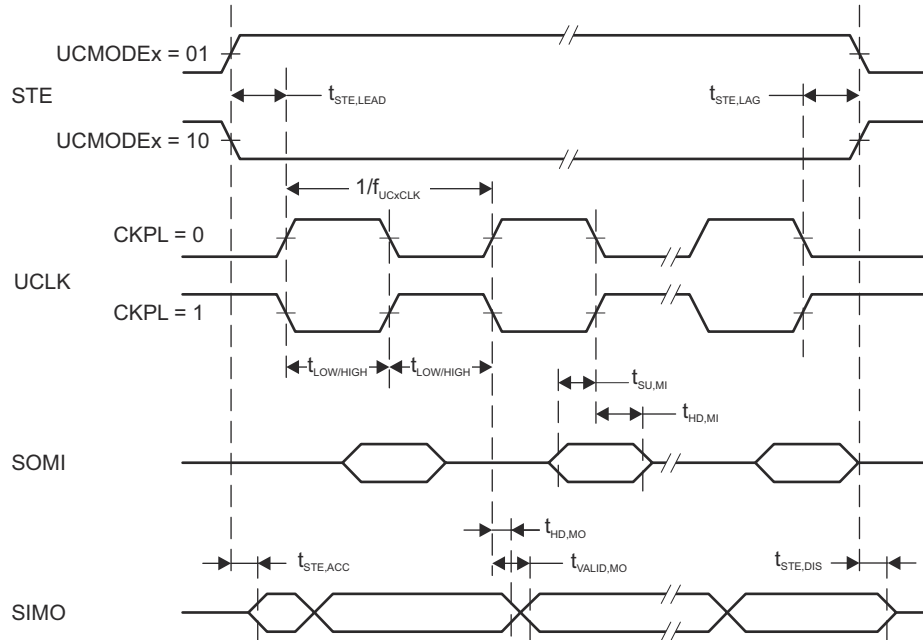

图 8-10. SPI Master Mode, CKPH = 0
- (2) Specifies the time to drive the next valid data to the SIMO output after the output changing UCLK clock edge. Refer to the timing diagrams in Fig 8-10 and Fig 8-11.
- (3) Specifies how long data on the SIMO output is valid after the output changing UCLK clock edge. Negative values indicate that the data on the SIMO output can become invalid before the output changing clock edge observed on UCLK. Refer to the timing diagrams in Fig 8-10 and Fig 8-11.